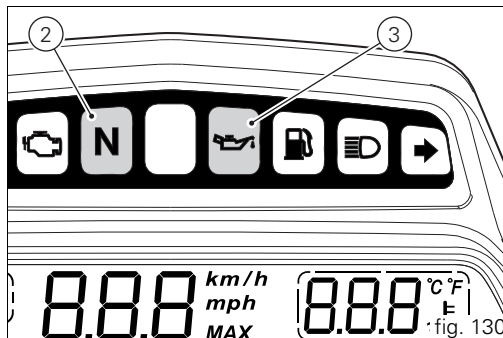

fig. 130
After this control, only the green light N (2, fig. 130), and the red light  (3) must remain on.